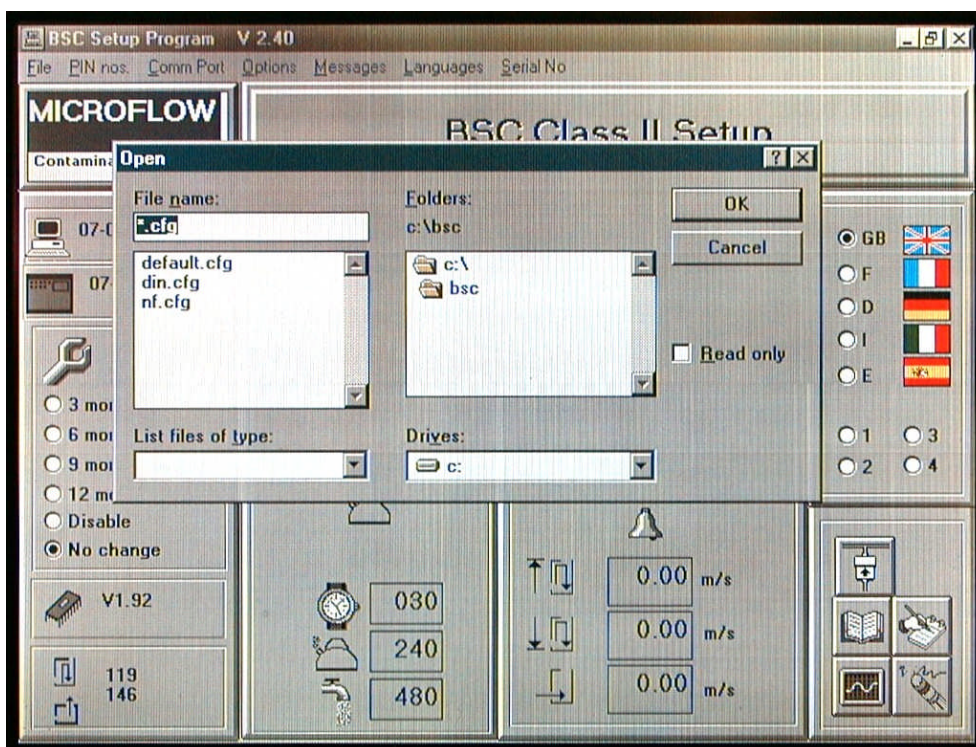

Figure 19 File Opening Dialogue Box
- (e) Initiate the software calibration process by clicking with the pointer on the **Calibrate** icon (video screen with sine wave, see box 11 Fig. 16). The configuration file opening screen will then appear see figure 19. If a workstation of the same type has been previously calibrated or the current workstation calibrated on a previous occasion, and the file saved, it can now be retrieved for use again. If not, then the default file 'default.cfg' should be used; double click on the appropriate text. Check that the alarms are set as below in box 6 in figure 16.